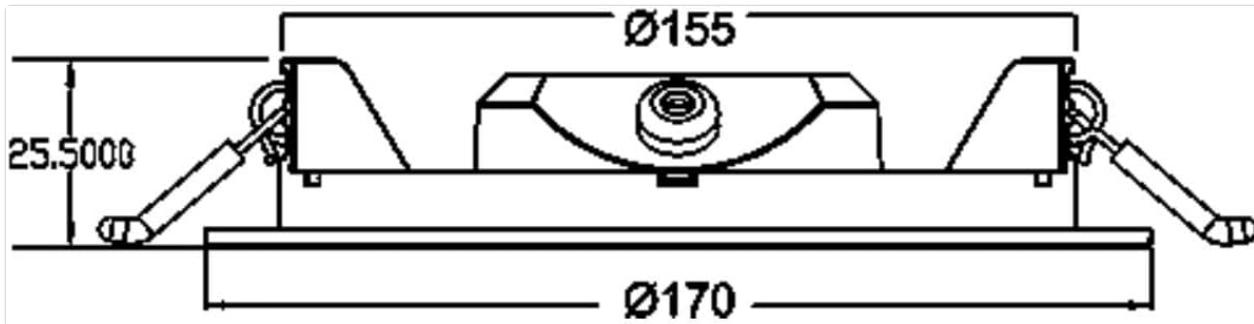

Figure 3: Dimensional drawing. Outer diameter: 172mm, Inner diameter (cut-out): 155mm, Height: 20mm.
- 2. Cut-out:** Create a circular opening in the ceiling with a diameter of approximately 155 mm (6.1 inches). Refer to Figure 3 for detailed dimensions.